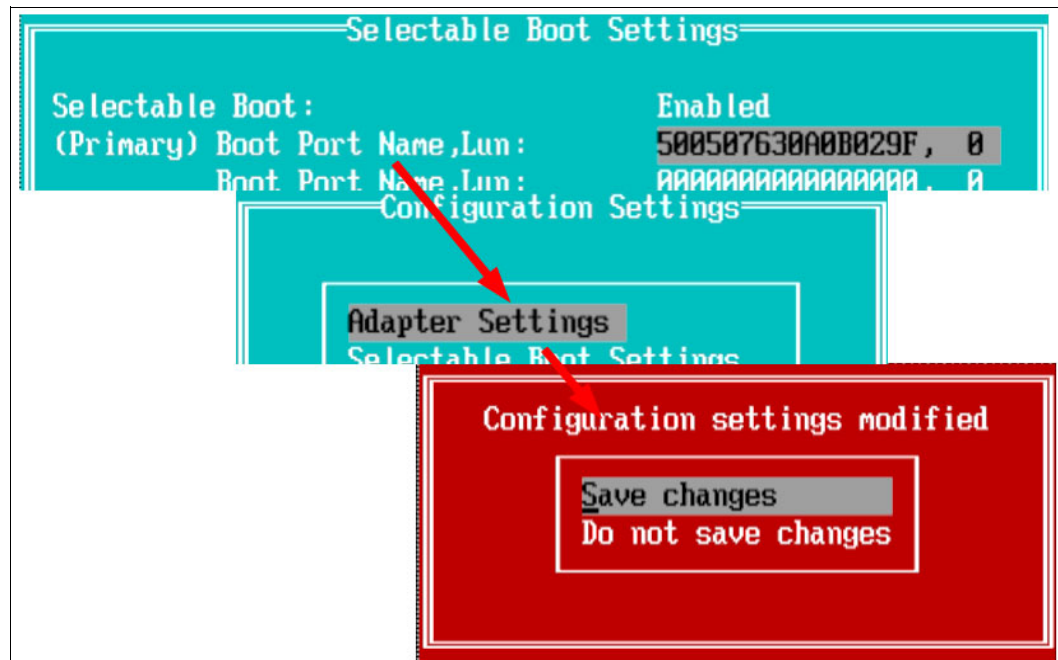

Figure 2-6 Checking and saving changes
13. When you see the Configuration settings modified message in the lower panel, shown in Figure 2-6, select **Save changes** (default) and press Enter.